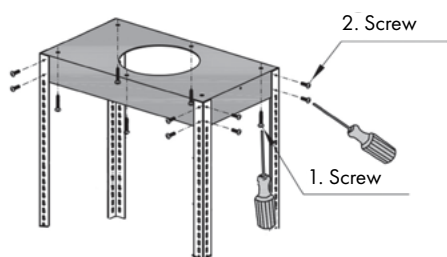

Figure 1
1. Locate the center above the stove where the hood is to be installed. Ensure that the bracket will be secured to solid wood backing. Attach mounting bracket to the ceiling. *Figure 1*